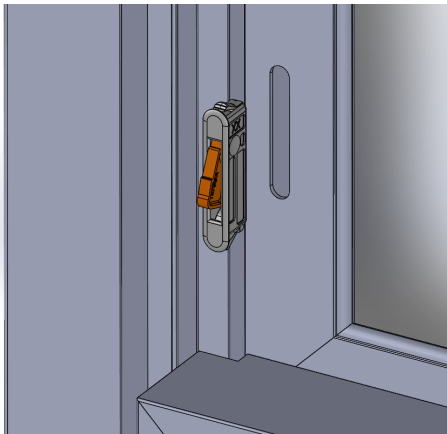

Figure 2
5. Care must be taken to orient the devices as shown in Figures 2 and 3 before insertion into the fabrication. DOWN is in the direction of the window sill and UP is in the direction of the window head.